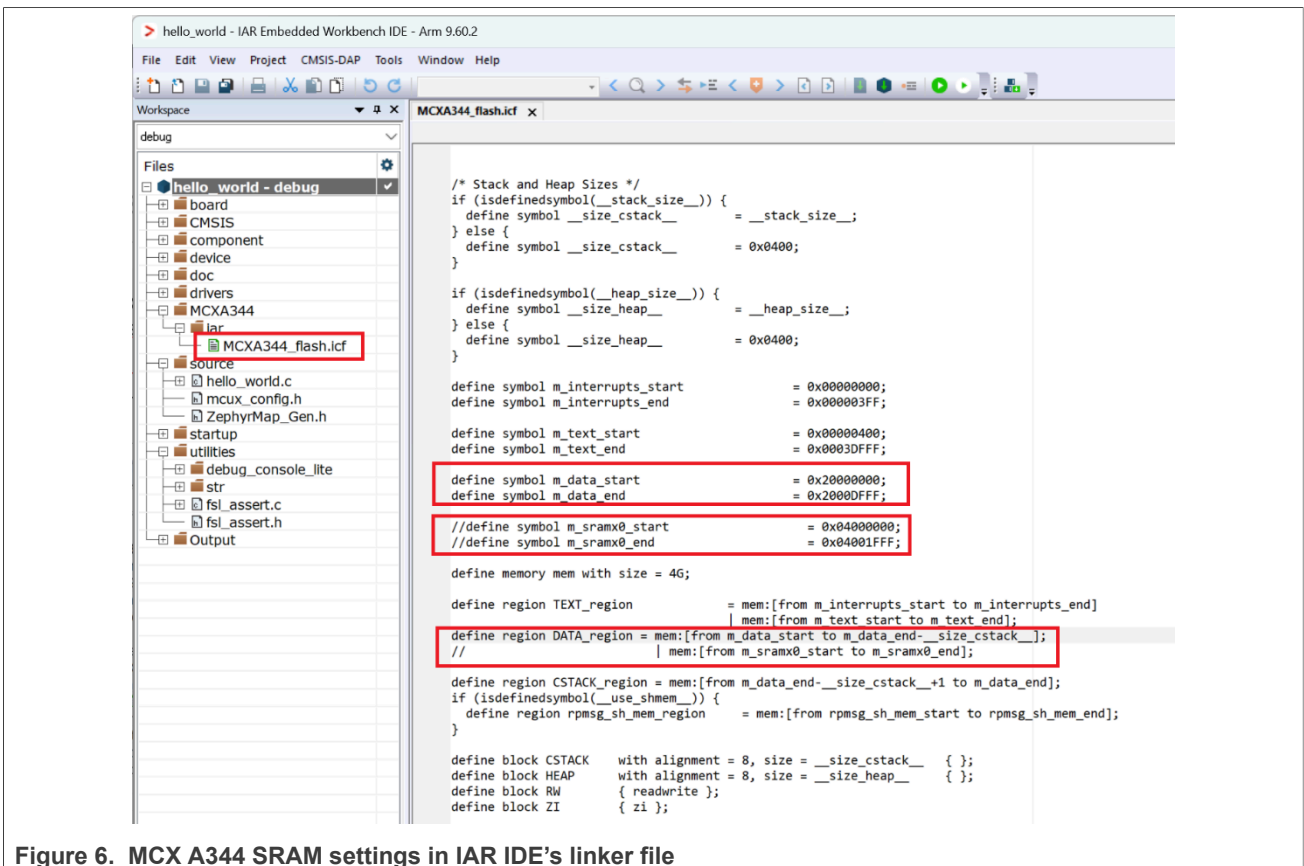

Figure 6. MCX A344 SRAM settings in IAR IDE’s linker file
- For MCX A344, as shown in Figure 6: